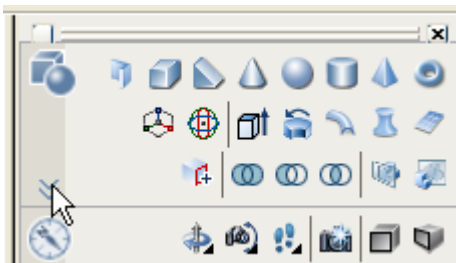
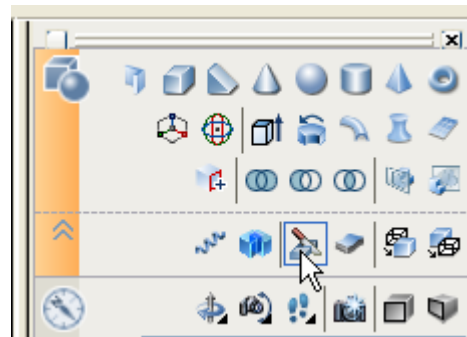

Figure 6A
Figure 6B
6. After lofting the surface turn off the visibility of the Front Profile and Front Guide Wire layers. Move you cursor into the area of the Dashboard shown in Figure 6A and a down pointing chevron will appear. Click on this to expand the solid modeling tools and select the Slice tool as shown in Figure 6B.